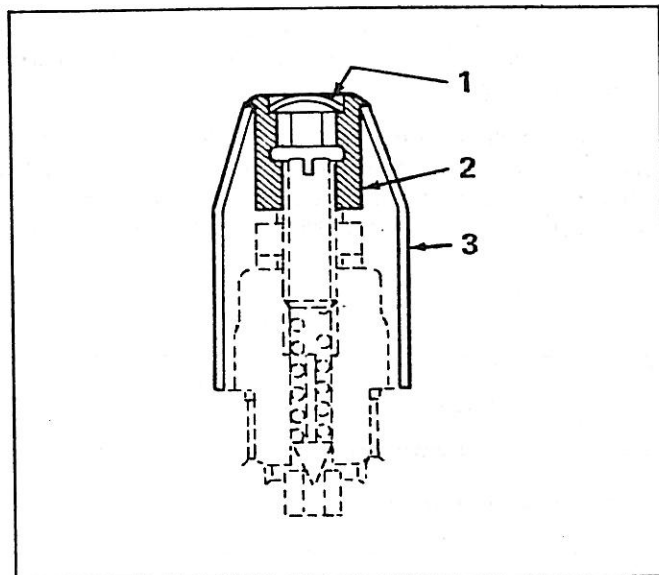

Figure 6. Tamper Proof Relief Valve
3. **TAMPER PROOF RELIEF VALVE.** (See Figure 6) A special tamper proof relief valve cover is available for installation on this control valve series. To prevent personnel from tampering with a "factory relief valve psi setting" a special cover has been designed to eliminate undetectable tampering.